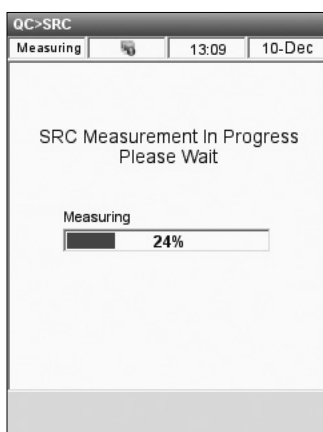

Fig. 4-8 SRC Measurement
- After the cover has been closed, the instrument begins the measurement process which is indicated on the display screen (Fig. 4-8). During this time (about 60 seconds per level), a progress bar is displayed.